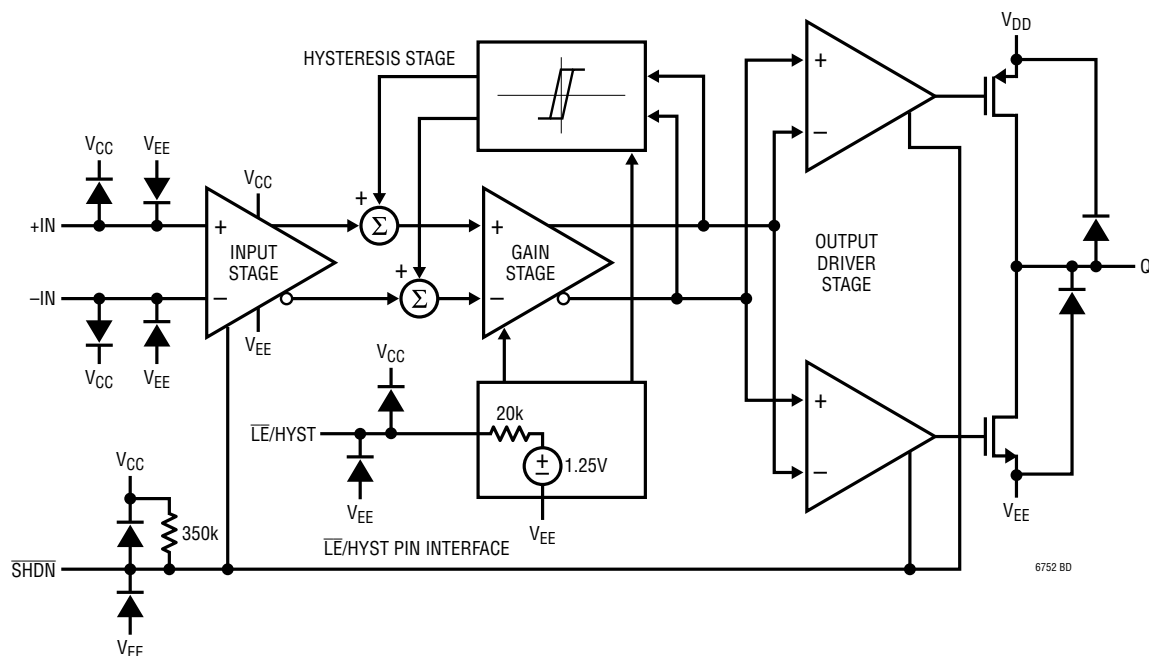

Figure 1. LTC6752/LTC6752-1/LTC6752-2/LTC6752-4 Block Diagram
The block diagram is shown in Figure 1. There are differential inputs (+IN, -IN), a negative power supply (V_{EE}), two positive supply pins: V_{CC} for the input stage and V_{DD} for the output stage, an output pin (Q), a pin for latching and adjusting hysteresis ($\overline{LE}/HYST$), and a pin to put the device in a low power mode ($\overline{SHDN}$). In the LTC6752 and LTC6752-1, the two positive supply pins are bonded together and referred to as V_{CC} . The signal path consists of a rail-to-rail input stage, an intermediate gain stage, and an output stage driving a pair of complementary FETs capable of taking the output pin to either supply rail. A Latching/Hysteresis interface block allows the user to latch the output state and/or remove or adjust the comparator input hysteresis. All of the internal signal paths make use of low voltage swings for high speed at low power.
The LTC6752 family members have reverse-biased ESD protection diodes on pins as shown in Figure 1.